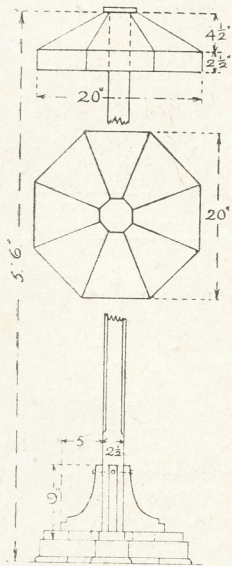
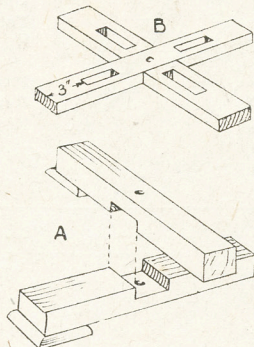

Fig. 2 — Section of standard and base
Fig. 3 — Construction of base parts
Work can be commenced upon the base, the general outline and dimensions of which are given in Fig. 2. There are two sturdy crosspieces or rails measuring 18ins. long by 4ins. by 2ins. in cross section, and after they have been cut off squarely and the centres marked across, the halvings are drawn in 1in. each side of the centre line and dropped down on the thickness of the stuff to half the depth to make a sound halving joint, as seen in detail (A), Fig. 3.
To form the feet below the cross rails, cut out four blocks 5ins. by 4ins. by $\frac{1}{2}$ in. or $\frac{3}{4}$ in. thick. Round them off on three edges and then glue and screw them to the extremities of the cross rails. Next make the upper members of the cross feet, the two rails (B), as seen in Fig. 3. These are each 17ins. long by 3ins. wide by 1in. thick, and on each, two mortises are to be marked out, as the detail shows, 3ins. in from the ends of the rails and the mortises are 3ins. long and 1in. wide. Cut them through with a coarse fretsaw, keeping just inside the drawn lines so as to insure a tight fit when the brackets are inserted.
By scoring is meant those lines between each panel is cut in very lightly with the tip of a knife, thus enabling a bend to be made exactly along a line. The interior of each panel is cut away as well as the smaller front panel which hangs down, as seen in the front view Fig. 2. On the 8th panel in Fig. 6 is seen a marginal strip, this, when the whole is angled up, is glued to the edge of the 1st panel. Gummed tape cut to length required and put at the back of joins and creases help to strengthen the shade a good deal.